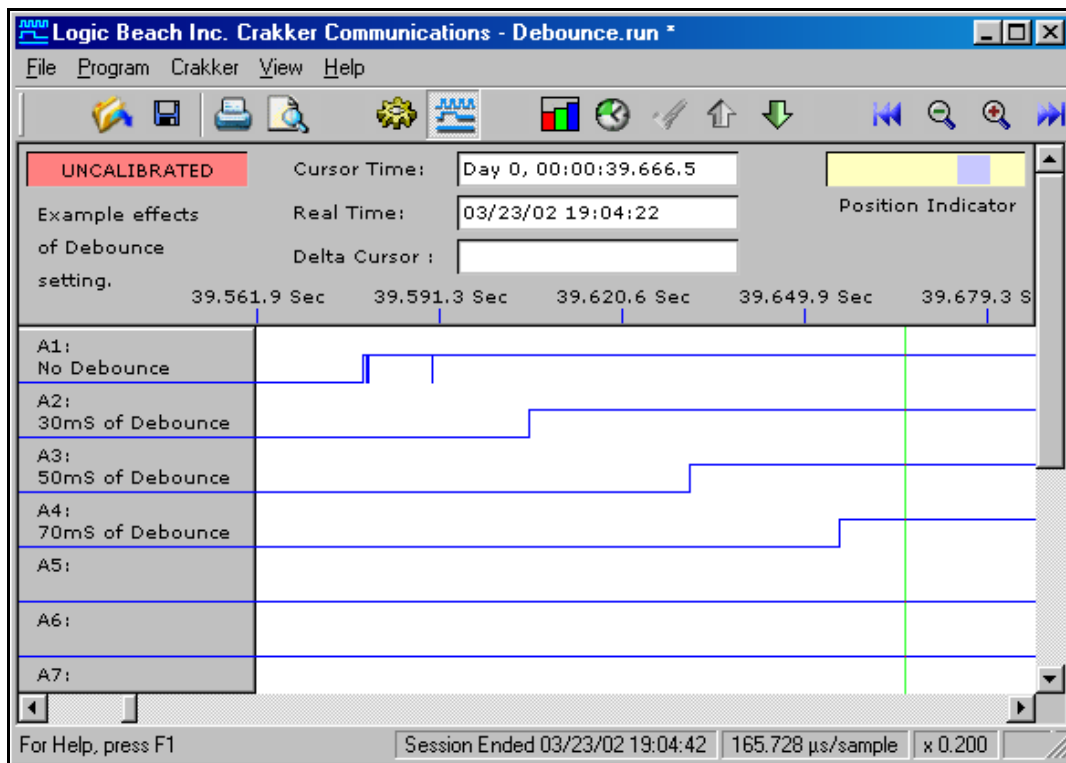

Figure 5.6 Effects of Debounce Setting on Switch Closures
In switches utilized in DC (and to a certain extent in AC) circuits, this contact bounce will translate into a rapid sequence of on and off voltage levels being detected by the Pod circuitry. Figure 5.6 shows four channels of data collected from the same set of contacts on a large relay with various amounts of Debounce specified. The first channel has no Debounce and multiple transitions can be seen (zooming in on the data reveals six high/low cycles). If no Debounce is used (i.e. 0) The Crakker will trap these rapid voltage transitions into memory (and could possibly present a combination that fulfills a misleading TRIGGER condition). If these transitions are not desired during the playback of the collected timing/state data, the Debounce can be enabled to filter out these transitions.
**Note:** Use of the Debounce function actually slows down ("skews") the effective detection rate of switch transitions by approximately the value selected. In critical high-speed troubleshooting applications, more insight into the system performance may be gained by leaving this Debounce value OFF (set to 0), with the trade-off that the data display may be considerably more visually complex due to the multiple transitions at each switching. Time skew can readily be seen between the different levels of Debounce in Figure 5.6.